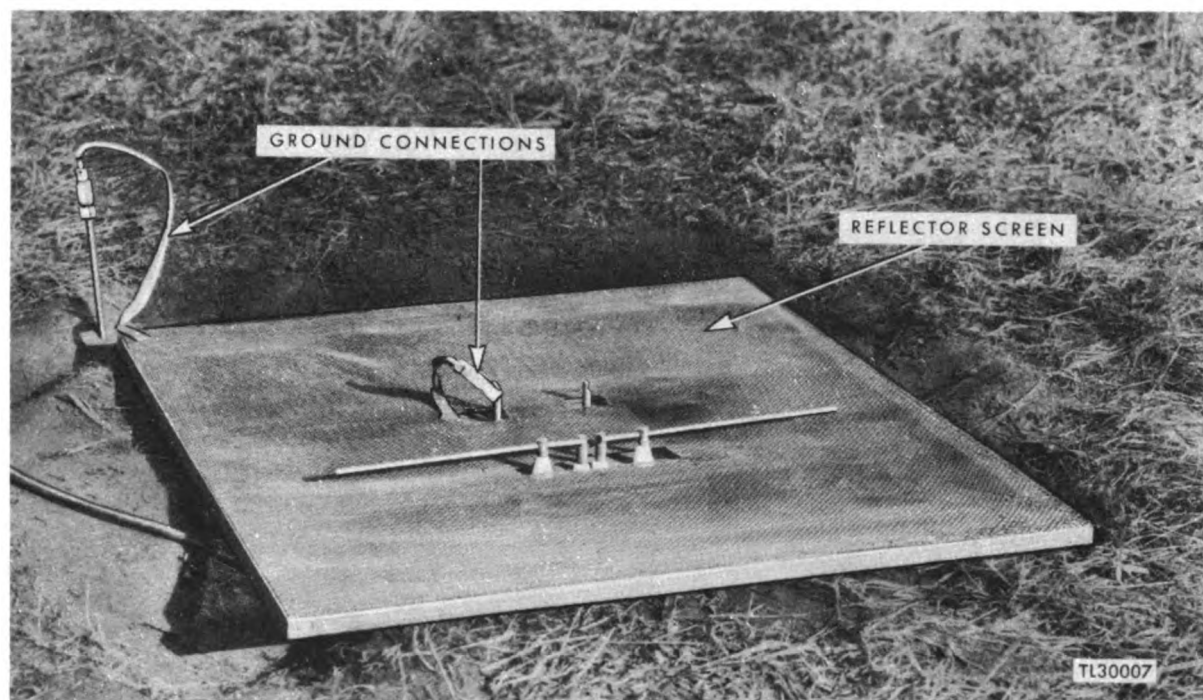

Figure 62. Arrangement of screen on buried tweeter.
a. Screen M-352 is a wire-mesh screen in a wooden frame. It is used as a shield and reflector when the buried-tweeter method is used to align the antennas of Radio Set SCR-268-(*). The arrangement of the screen on Modulator BC-423 (tweeter) is shown in figure 62.
d. Remove both halves of the tweeter dipole, and place the screen flat on the tweeter case and on the earth. Replace the dipole so that both halves project above the screen without touching it. Make sure that the wooden frame on the tweeter screen rests squarely on the tweeter case. Connect the tweeter case to the screen and the screen to a metal ground stake placed behind the tweeter as shown in figure 62.